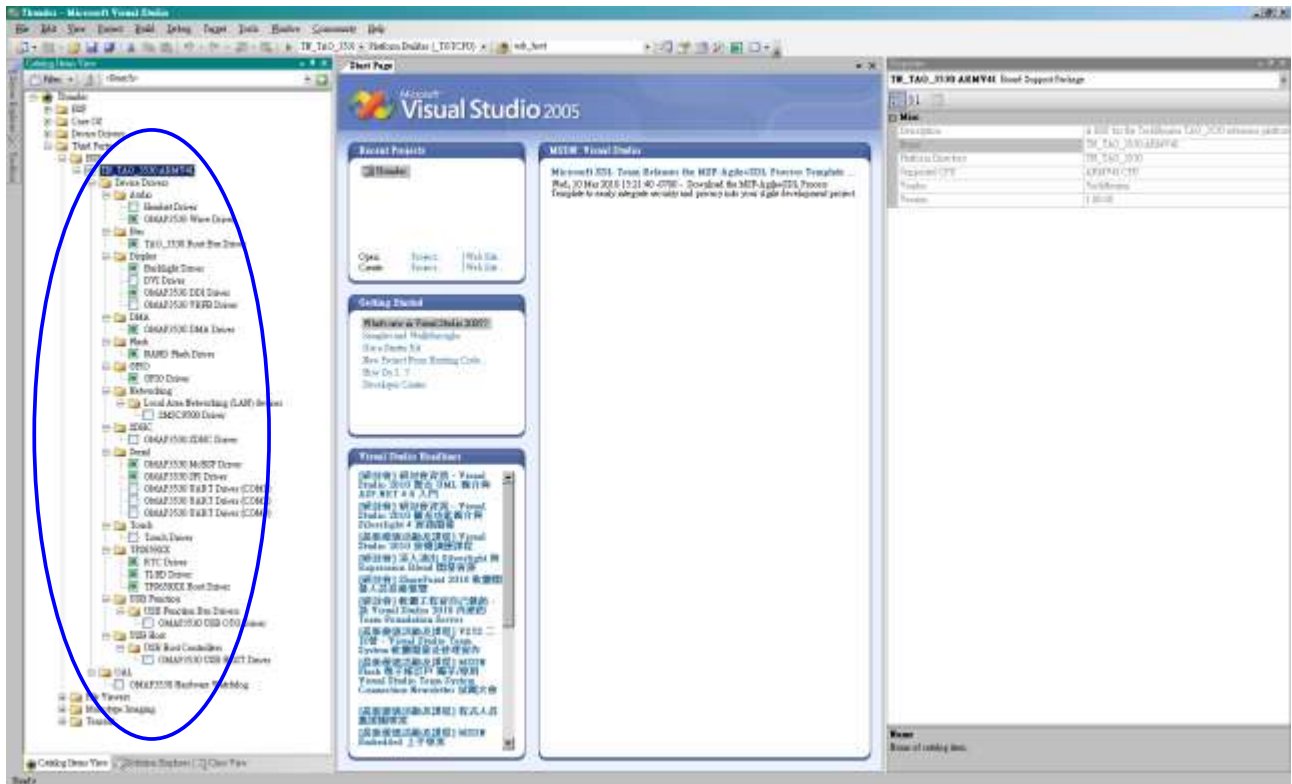
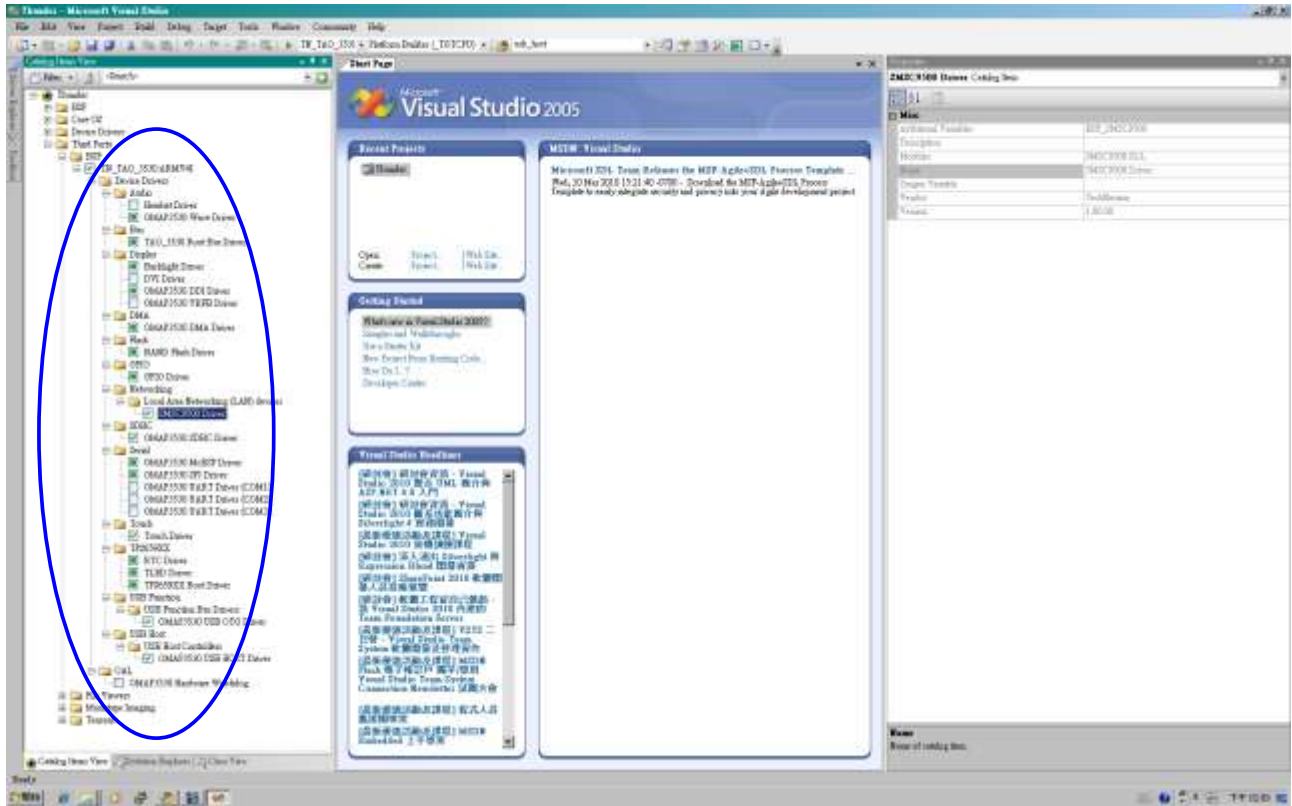

Figure 133
Figure 134
- Chose function for “Thunder” board in the “Catalog Items View”. (See Figure 133 and Figure 134)